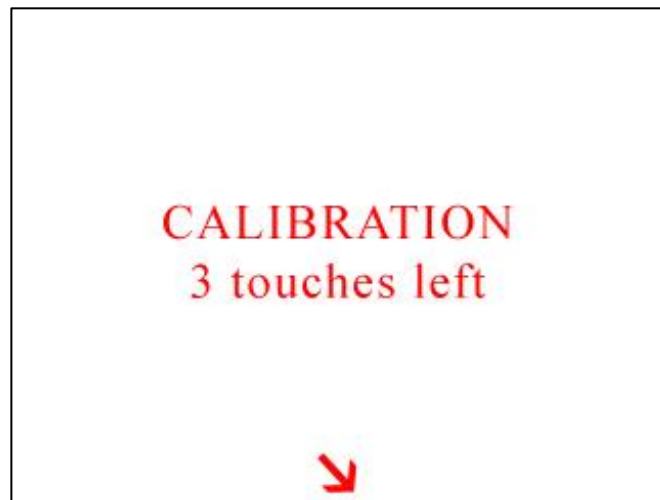

Figure 6-51 Final Alignment Screen
- The fourth alignment screen shown in Figure 6-51, displays the arrow in the at the bottom center of the screen. Touch the arrow three times to finish the alignment process.